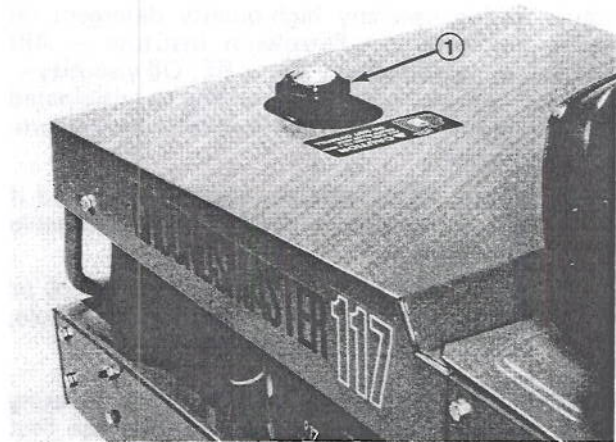

Figure 9
1. Remove cap from the fuel tank (Fig. 9) and fill the 5 gallon tank to within 1 inch from the top with leaded gasoline. Install fuel tank cap tightly.